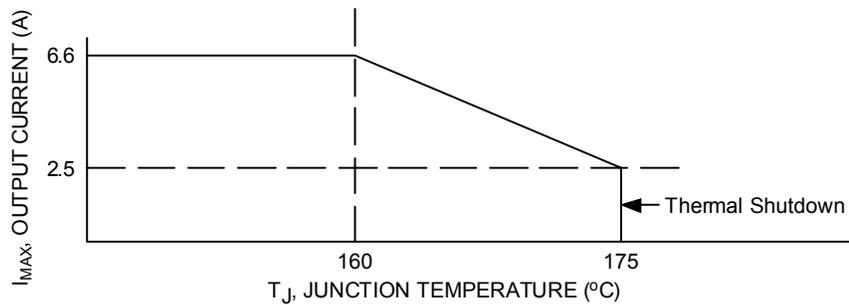
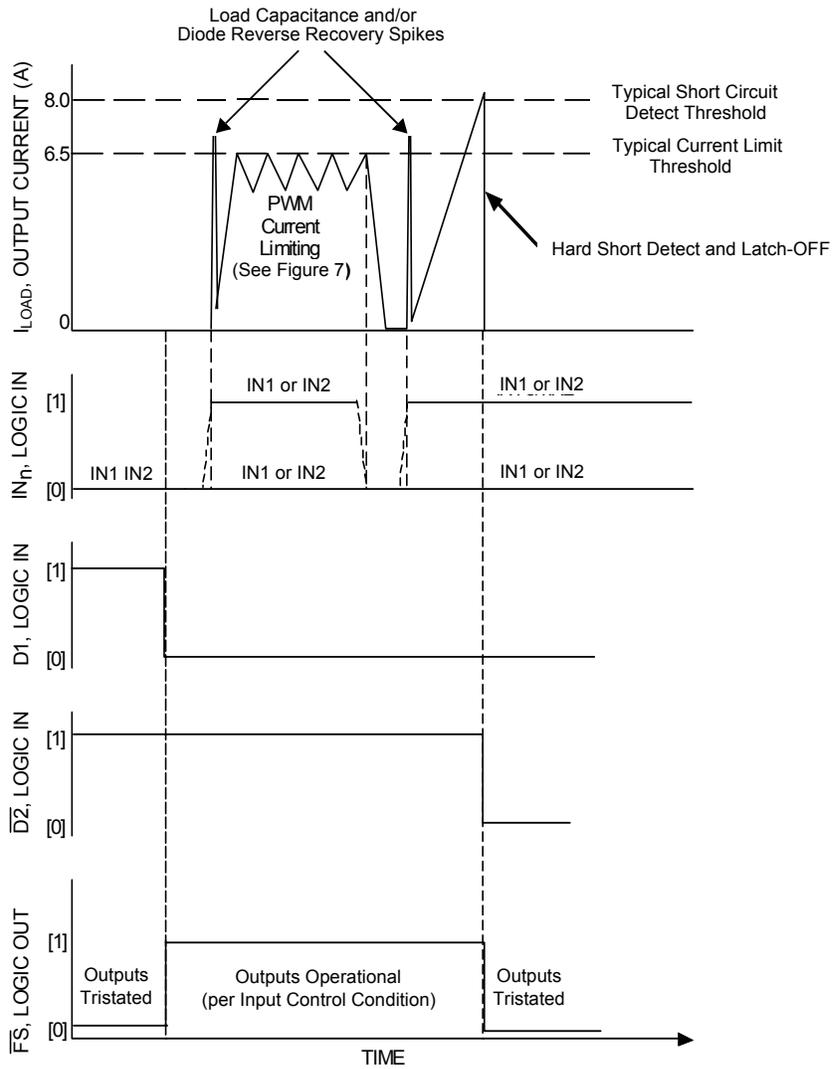

Figure 5. Output Current Limiting Versus Temperature (Typical)
Figure 6. Output Load Current Limiting Versus Time
22. Increasing output currents will become limited at 6.5 A. Hard shorts will breach the 6.5 A limit, forcing the output into an immediate tristate latch-OFF. See Figures 6 and 7. Output current limiting will cause junction temperatures to rise. A junction temperature above 160°C will cause the output current limit to progressively “fold-back”, or decrease, to 2.5 A typical at 175°C where thermal latch-OFF will occur. See Figure 5.
The PWM current limit threshold value is dependent upon the device junction temperature. When $-40^\circ\text{C} \leq T_J \leq 160^\circ\text{C}$, I_{MAX} is between 5.2 A to 7.8 A. When T_J exceeds 160°C , the I_{MAX} current decreases linearly down to 2.5 A typical at 175°C . Above 175°C the device overtemperature circuit detects T_{LIM} and overtemperature shutdown occurs (see Figure 5). This feature allows the device to remain operational for a longer time but at a regressing output performance level at junction temperatures above 160°C .